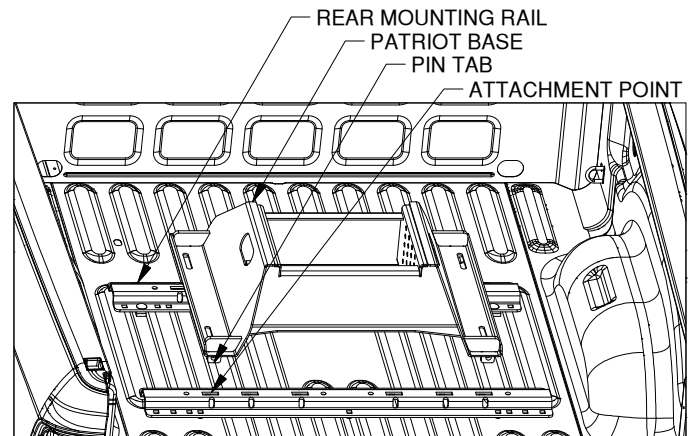

FIGURE C1: View into truck bed looking towards tailgate.
- 2. Position the rear mounting rail.** For this step the base which will be used in the mounting rails is required. Place a mounting rail into the truck bed behind the forward mounting rail. Place the base over the rail attachment points and carefully lower it until the pin tabs pass through the attachment points on the forward mounting rail. Attach the rear mounting rail to the rear mounting points on the base. The base should rest flat against the top of the rails, See figure C1. With the base still attached ensure that the rear rail is centered in the truck bed.